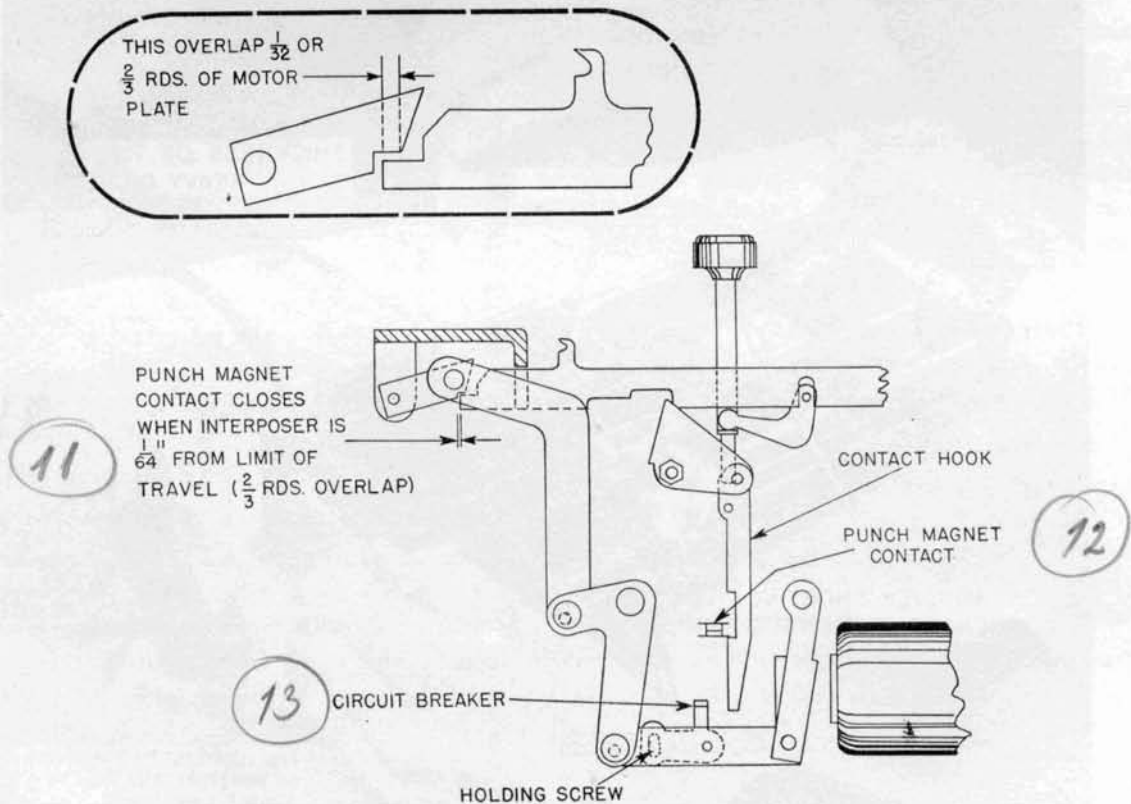

Figure 27
Punch Magnet Contact - Figure 27
The straps of the punch magnet contact must have sufficient tension against their supports to prevent fluttering or double shuffle. At the same time, the tension must be light enough, especially on the lower strap, so that the touch is not too heavy. Adjust the brass support of the upper strap by bending so that the contacts will close $1/64$ inch before an interposer reaches its limit of travel to the left. This will automatically produce an overlap of $1/32$ inch between motor plate and interposer, when contact is made (insert, Figure 27).
Circuit Breaker - Figure 27
- 11 - Punch Magnet Contact. See Fig.27. Contact has to close as interposer 5/64" has moved. Adjust upper contact blade.
- 13 - Circuit Breaker. See Fig.27. With punch magnet attracted must open just before the armature reaches its travel limit.